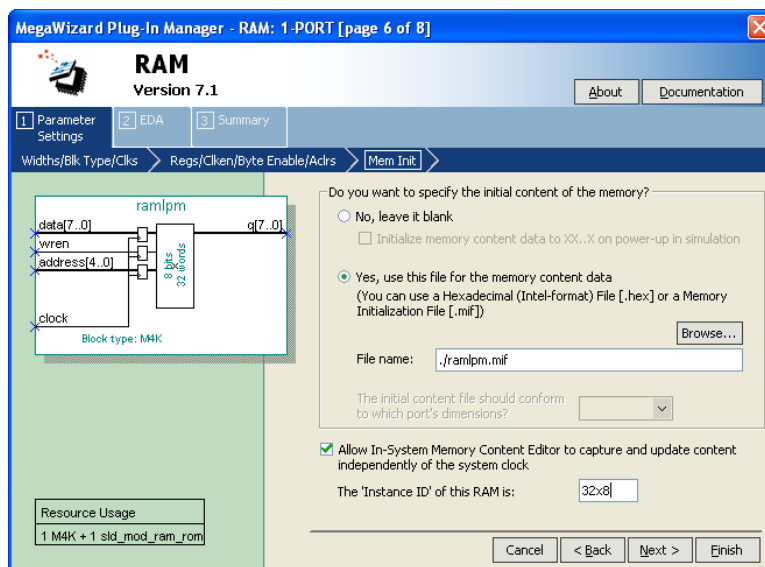
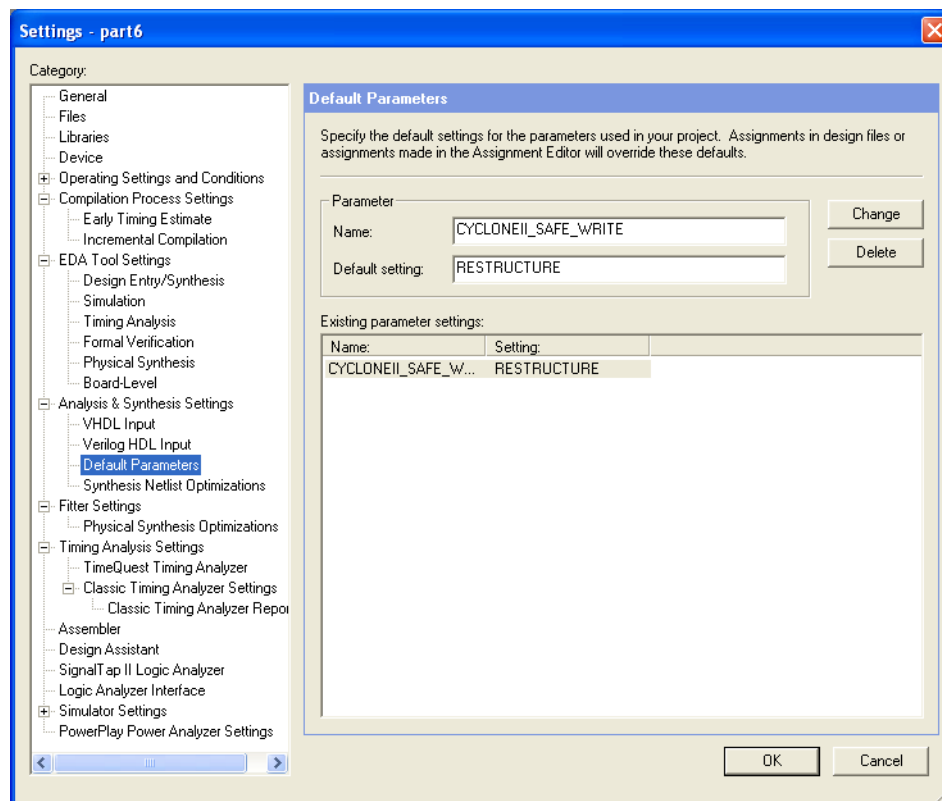

Figure 6. Configuring *RAM: 1-PORT* for use with the In-System Memory Content Editor.
Figure 7. Setting the *CYCLONEII\_SAFE\_WRITE* parameter.
1. Create a new Quartus II project for your circuit, and use the MegaWizard Plug-in Manager to again create a *RAM: 1-PORT* LPM. For Pages 3 to 5 of the Wizard use the same settings as in Part I. On Page 6, shown in Figure 6, specify the *ramlpm.mif* file as you did in Part V, but also make the setting *Allow In-System Memory Content Editor* to capture and update content independently of the system clock. This option allows you to use a feature of the Quartus II CAD system called the In-System Memory Content Editor to view and manipulate the contents of the created RAM module. When using this tool you can optionally specify a four-character 'Instance ID' that serves as a name for the memory; in Figure 7 we gave the RAM module the name 32x8. Complete the final steps in the Wizard.
3. Before you can use the In-System Memory Content Editor tool, one additional setting has to be made. In the Quartus II software select **Assignments > Settings** to open the window in Figure 7, and then open the item called **Default Parameters** under **Analysis and Synthesis Settings**. As shown in the figure, type the parameter name **CYCLONEII\_SAFE\_WRITE** and assign the value **RESTRICTURE**. This parameter allows the Quartus II synthesis tools to modify the single-port RAM as needed to allow reading and writing of the memory by the In-System Memory Content Editor tool. Click **OK** to exit from the Settings window.